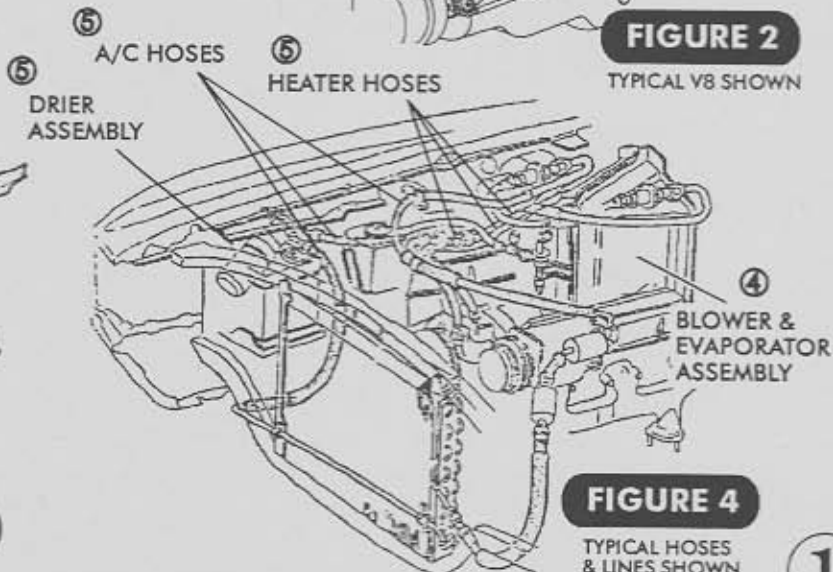

FIGURE 4
- 5. OEM HEATER HOSES, A/C HOSES, HARDLINES AND DRIER (DISCARD). SEE FIGURE 4.